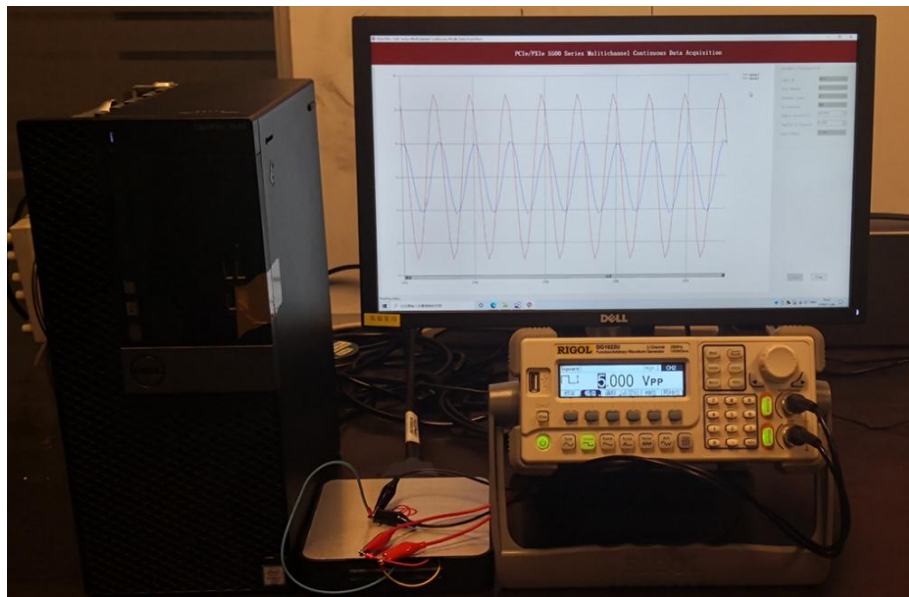
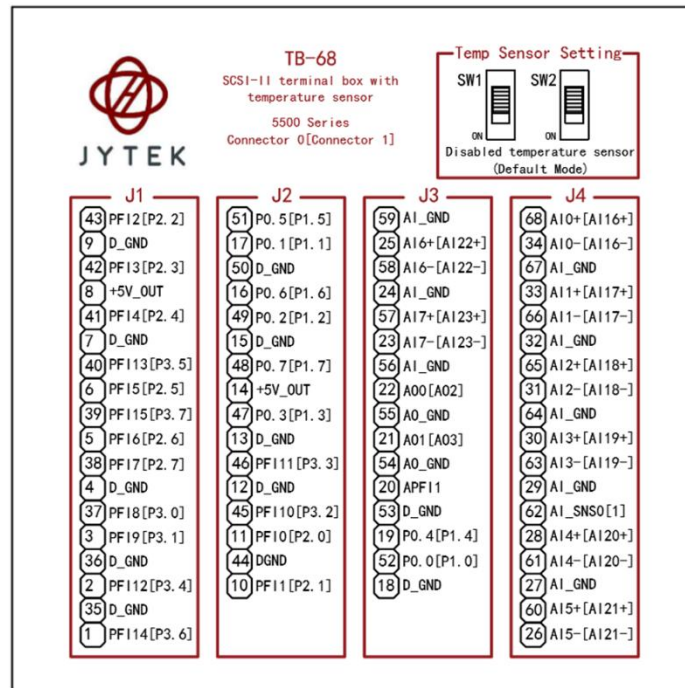

Figure 3 PCIe-5111 experiment
Figure 4 TB-68 Terminal Block
- Connect the two signal source's positive outputs to PCIe-5111 AI Ch0 (AI0+, Pin #68) and AI Ch1 (AI1+, Pin#33), two negative terminals to the ground (AI_GND, Pin#67) as shown in Figure 3 and Figure 4 (AI0+, AI_GND) and (AI1+, AI_GND) consist of two channels of RSE inputs and they share the same GND.
- Connect the two signal source's positive outputs to PCIe-5111 AI Ch0 ($AI0+$, Pin #68) and AI Ch1 ($AI1+$, Pin#33), two negative terminals to AI Ch0 negative ($AI0-$, Pin#34) and AI Ch1 negative ($AI1-$, Pin#66) as shown in Figure 3 and Figure 4. ($AI0+$, $AI0-$) and ($AI1+$, $AI1-$) consist of two pairs of DIFF inputs;
- This Example needs two TB-68 terminal blocks, Connector0 and Connector1 and two cables, which are connected to PCIe-5111. Connect the two signal source's positive outputs to PCIe-5111 AI Ch0 (AI0+, Pin #68) and AI Ch1 (AI1+, Pin#33), two negative terminals to AI_SENSE 0 (Pin#62) of the first TB-68 and AI_SENSE 1 (Pin#62) of the second TB-68 as shown in Figure 3 and Figure 4. (AI0+, AI_SENSE 0) and (AI1+, AI_SENSE 1) consist of two channels of NRSE inputs.
- Connect the signal source's positive terminal to PCIe-5111 AI Ch0 (AI0+, Pin#68), the negative terminal to the ground (AI_GND, Pin#67) as shown in Figure 3 and Figure 4. (AI0+, AI_GND) consists of a RSE input.